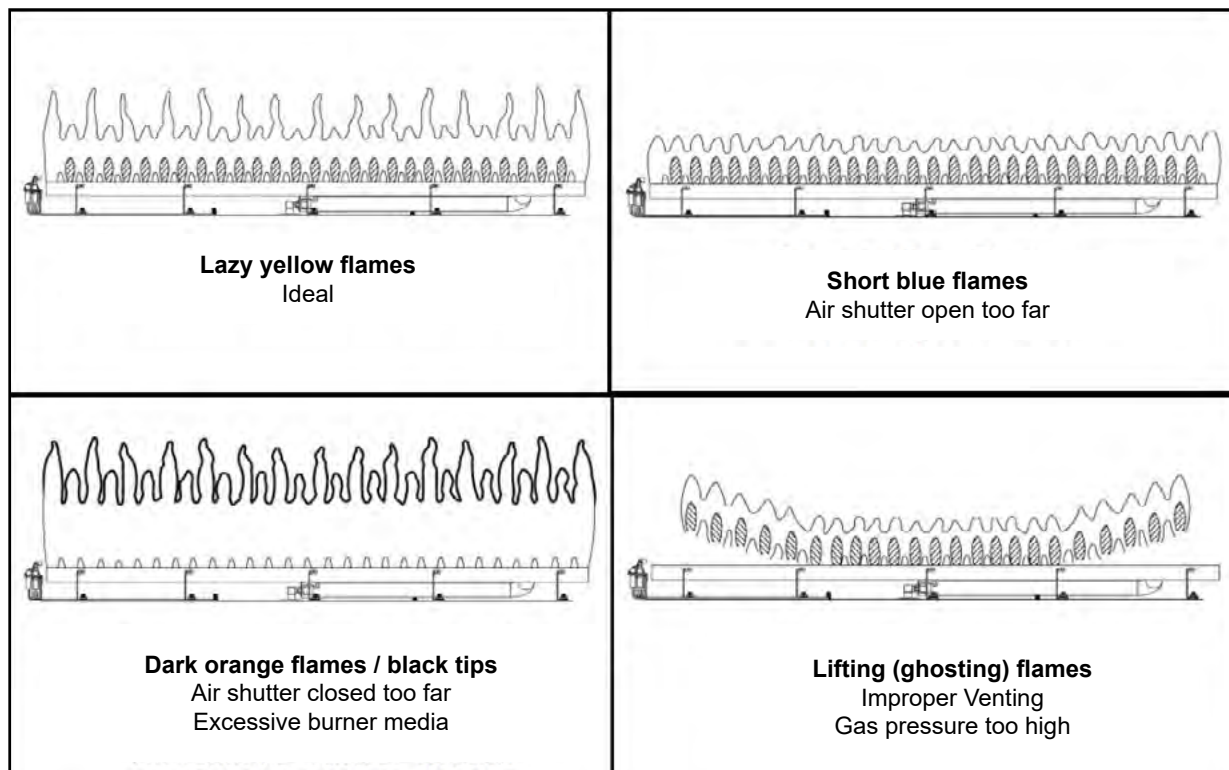
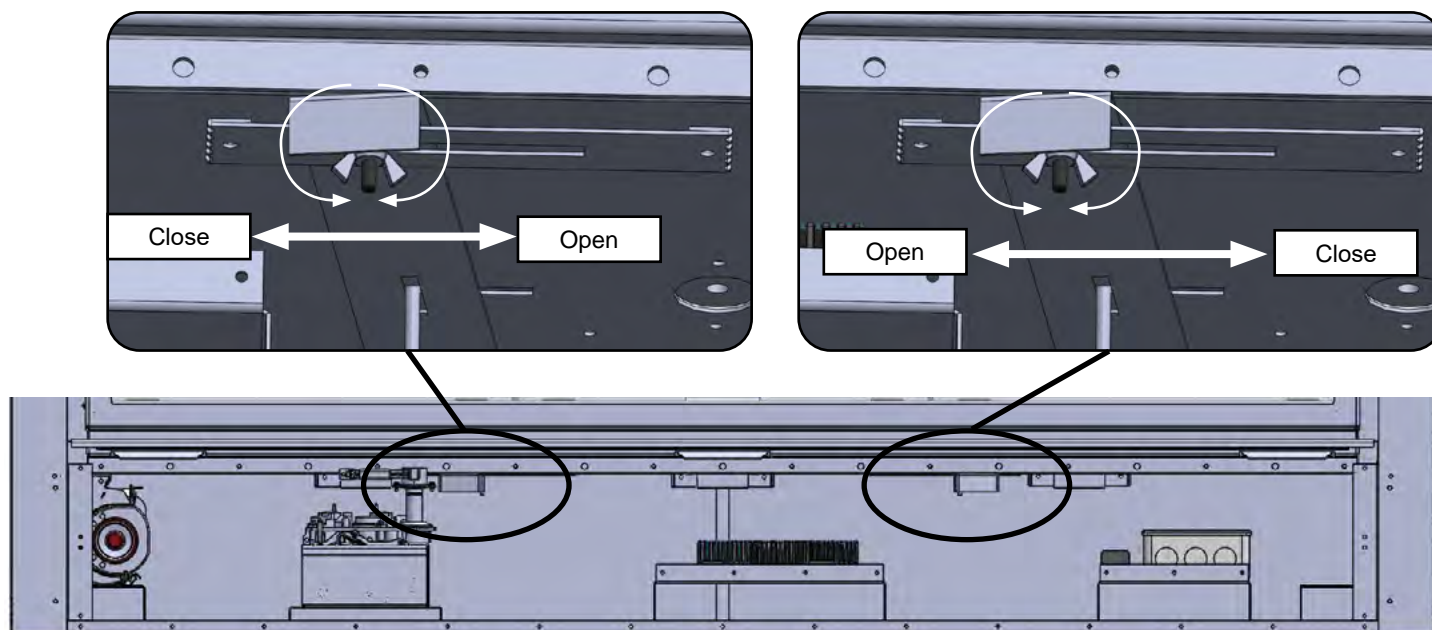

Figure 18.5.01:
Figure 18.5.02:
- Inspect and ensure the lighting of the main burner occurs within 4 seconds of the main gas valve opening. Flames should match those shown in **Figure 18.5.01**
The **50-DVTE36CN-1** includes an air shutter located under the door of the fireplace which may be used to adjust the primary air to achieve the ideal flame as shown in **Figure 18.5.01**. To adjust, loosen the wing nut on the air shutter and adjust as shown in **Figure 18.5.02**. To open the air shutter and increase air flow to the burner, slide the air shutter to the left. To close the air shutter and decrease air flow to the burner, slide the air shutter to the right.